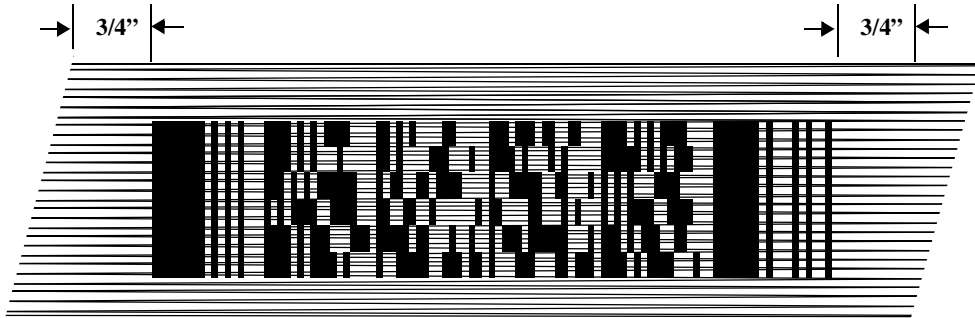

Figure 4-4. Orienting Scanning Pattern On PDF417 Bar Code
- In all cases, make sure the scan pattern extends *at least 3/4 inch* beyond each edge of the bar code (Figure 4-4).